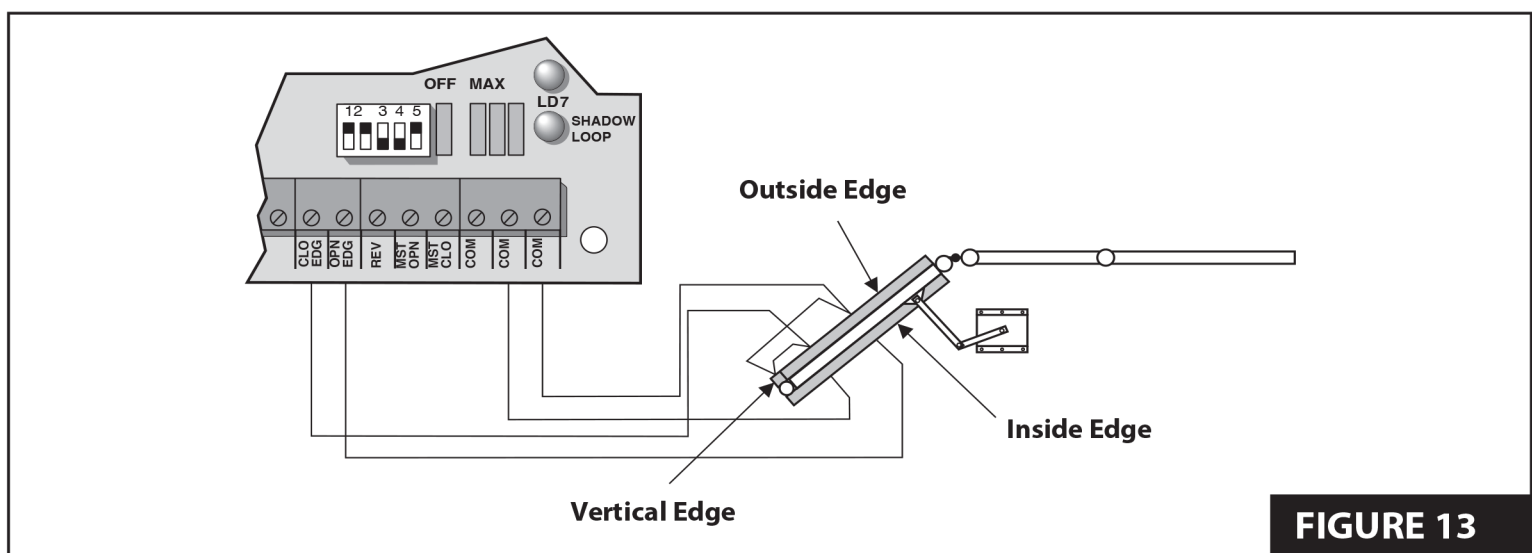

FIGURE 13
2. Connect contact sensor edges to the control board as shown in **Figure 13** below.